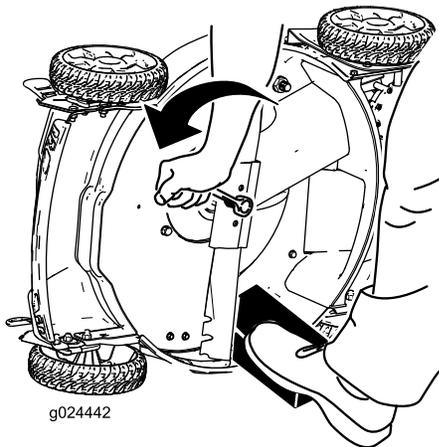

Figure 26
3. Use a block of wood to hold the blade steady (Figure 26).
4. Remove the blade by turning the blade bolt counterclockwise, saving all mounting hardware to install the new blade (Figure 26).